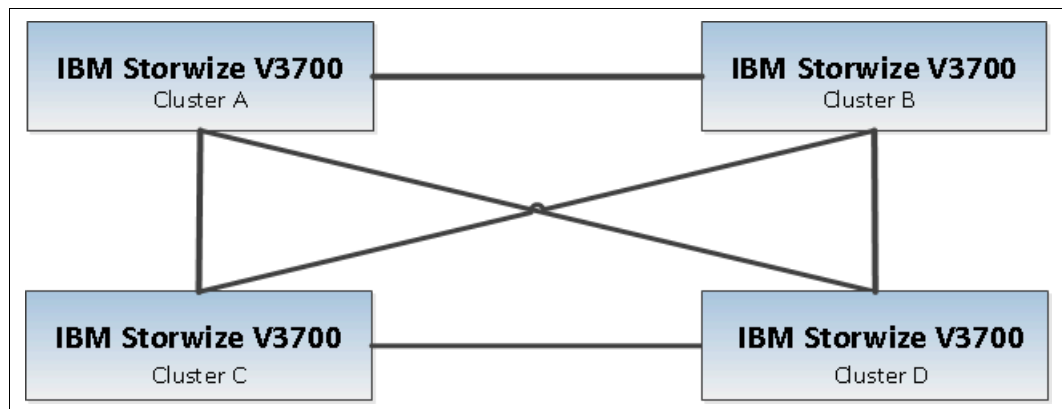

Figure 10-75 Full meshed IBM Storwize V3700
- ▶ Full-meshed topology, as shown in Figure 10-75.